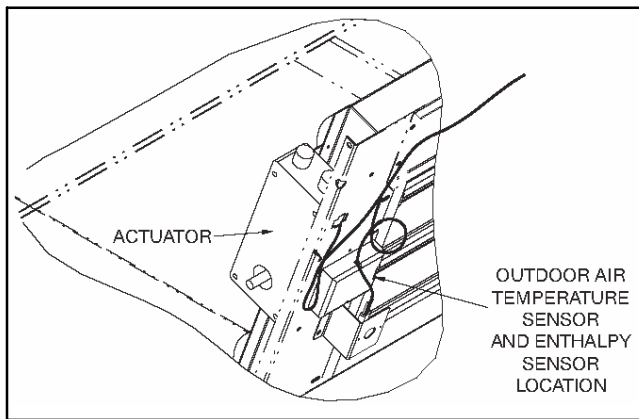

Fig. 4 – Outdoor Air Sensor Location – PAH/PGH210-300 Units
3. Mount the enthalpy sensor in the predrilled holes on the economizer frame (where the enthalpy sensor was removed in Step 2). (See Fig. 4.) Use the screws removed in Step 2.